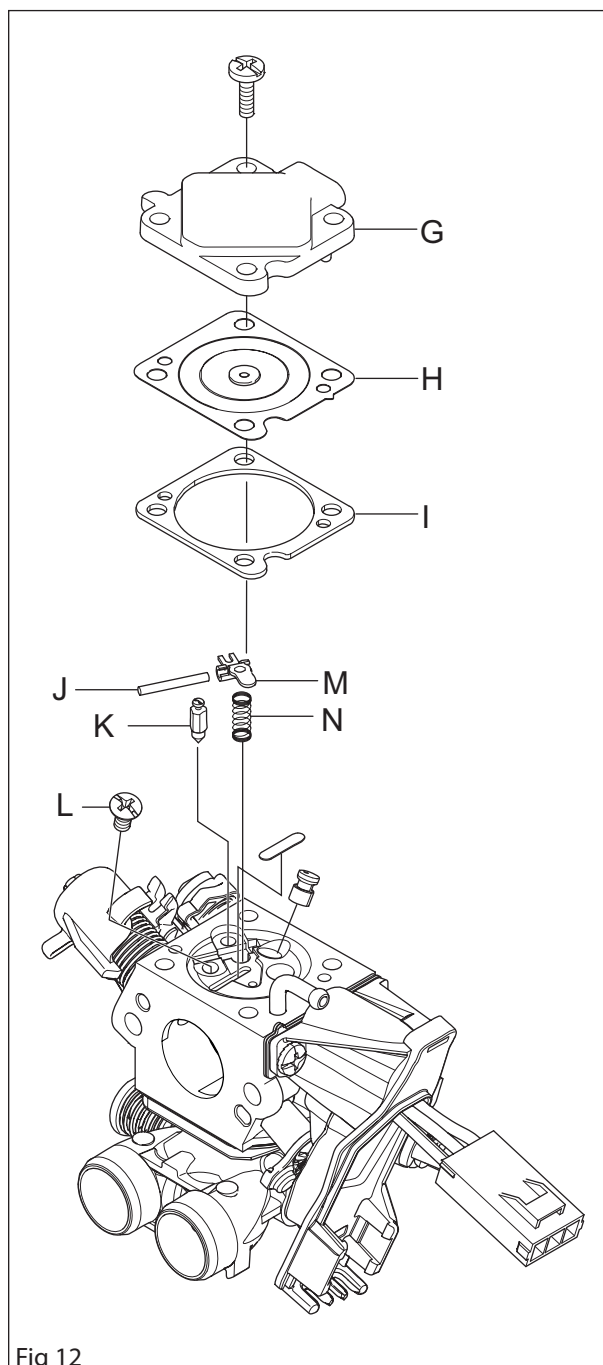

Fig 12
11. Dismantle the metering cover (G), four screws, and carefully remove the metering diaphragm (H) and gasket (I). See figure 12.
12. Unscrew screw (L) and remove needle valve (K) with lever arm (M), shaft (J) and spring (N). See figure 12.
5. Check that the needle valve (K) and its lever arm (M) are not worn. See figure 12.